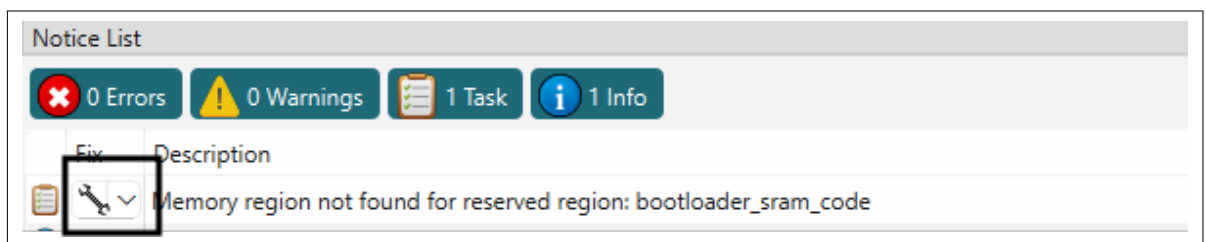

Figure 50 Add bootloader_sram_code region
3. Add region in SRAM memory for bootloader image by clicking on fix as shown in Figure 50